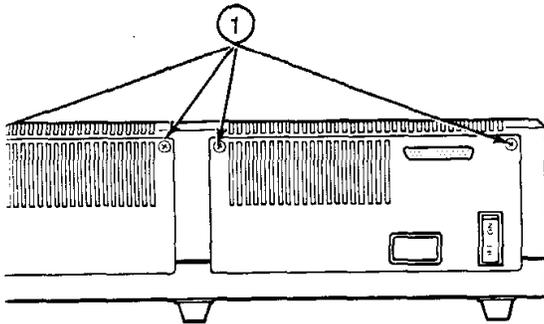

FIGURE 3
5. Loosen but don't remove the four rear screws on the back of the unit. (Figure 3, Item 1). Turn the screws counterclockwise 3-4 turns.